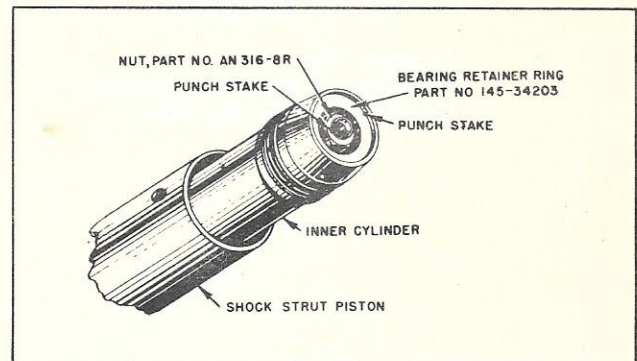

Figure 1
d. Remove nut, part No. AN316-14R, securing inner cylinder. (See figure 1.)
g. Inspect bearing retainer ring, part No. 145-34203, to see that it is down tight against the bearing, and stake it again if necessary. (See figure 1.)